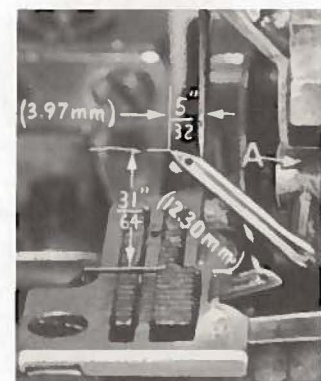

Fig. 11
Next, turn handwheel until looper is at the left end of its travel; check dimensions of upper looper point with respect to needle and throat plate (Fig. 11). If resetting is necessary, do it by moving the upper looper holder (A, Fig. 11). Figure 11 represents the correct dimensional setting.
If it becomes necessary to move looper thread pull-off (AF), be sure to take up all end play in needle drive shaft before tightening. If upper looper is located so that it is higher over throat plate than recommended in Fig. 11, the purl will tend to form near top edge. If upper looper is too low, the purl will form nearer bottom edge.